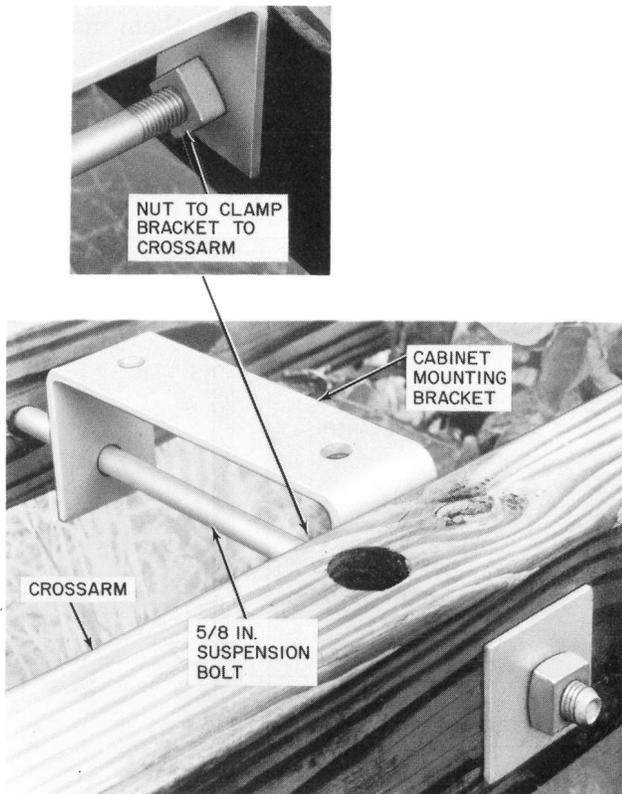

Fig. 11—Cabinet Mounting Brackets Installed Between Crossarms
3.27 Remove the four 1/2-13 by 1-inch bolts and cabinet mounting brackets from the bottom of the cabinet and install between crossarms as shown in Fig. 11. A square nut clamps the mounting bracket to the front crossarm (Fig. 11). Leave the nuts fingertight.